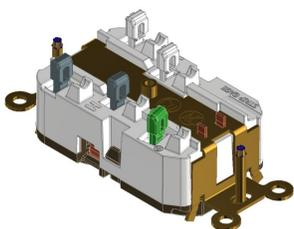

Fig. 2
- Device comes ready to wire from the factory with plungers in the “up” position. See Fig. 2. Plungers must be up before a wire can be inserted into the wiring chamber.